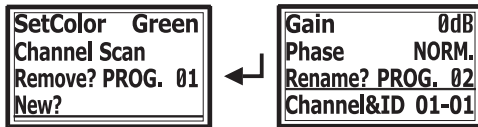

Fig. 23
(O) Add a new program name, Fig. 23: